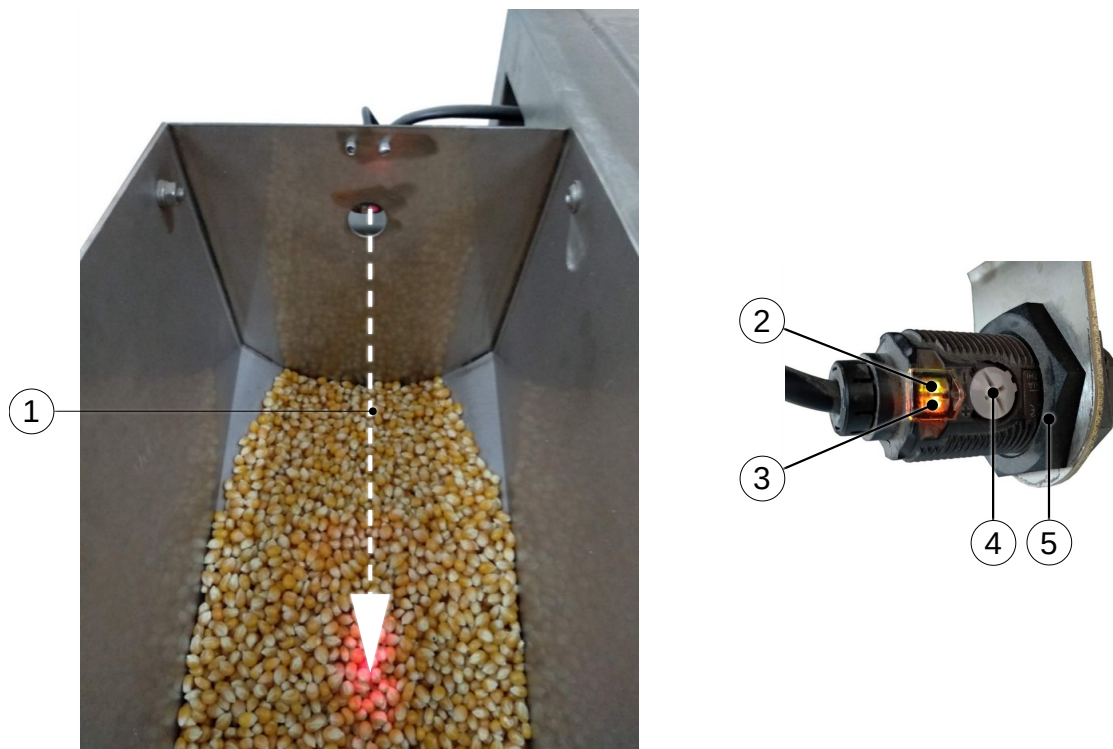

Figure 5: Corn bin sensor
1. Rotate adjustment screw (4), see Fig.5 clockwise to increase the sensing distance (1), counter-clockwise to decrease the distance. Adjust the sensor so that it trips whenever there is little amount of corn left in the bin.
2. Operation indicator (orange) (3) represents status of the sensor (ON LED means tripped sensor).
3. Stability indicator (green) (4) represents stability of the signal (ON LED means strong signal).
4. Position of the fixing nut (5) also affects the sensing distance.